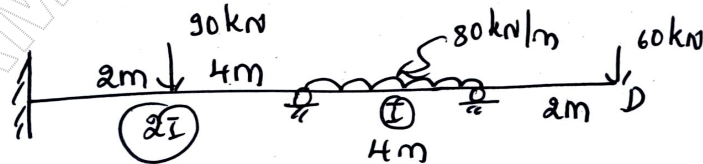

Fig.Q.5
- 5 Analyze the continuous beam by displacement transformation method. Draw SFD, BMD and elastic curve. Refer Fig.Q.5. (20 Marks)